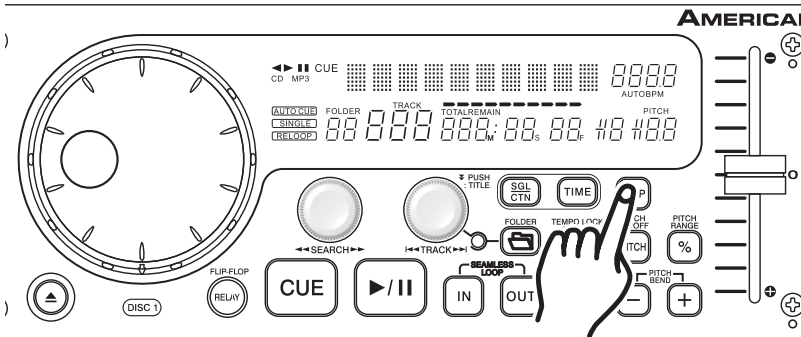

Figure 35
- 3) Now tap the *BOP BUTTON* (9) (Figure 35). It will produce a stutter effect as quickly as you tap on the *BOP BUTTON* (9).